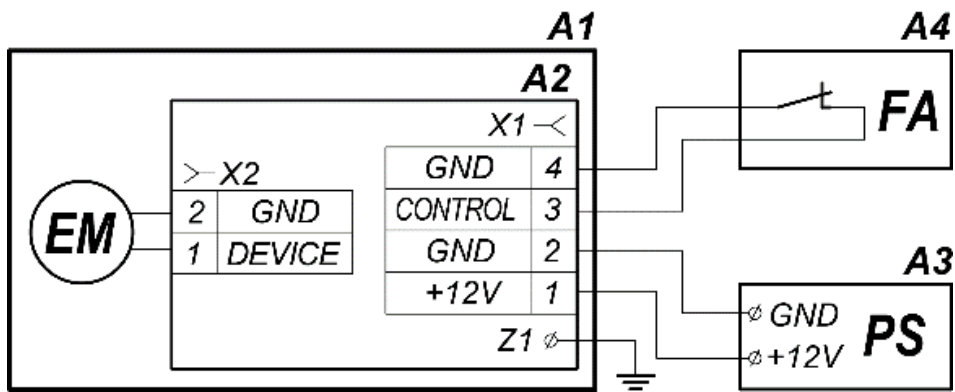

Figure 19. Electric circuit scheme of the post with electromagnetic BD
8. Connect power cable and control cable to the board in accordance with electric circuit scheme (see Figure 19).